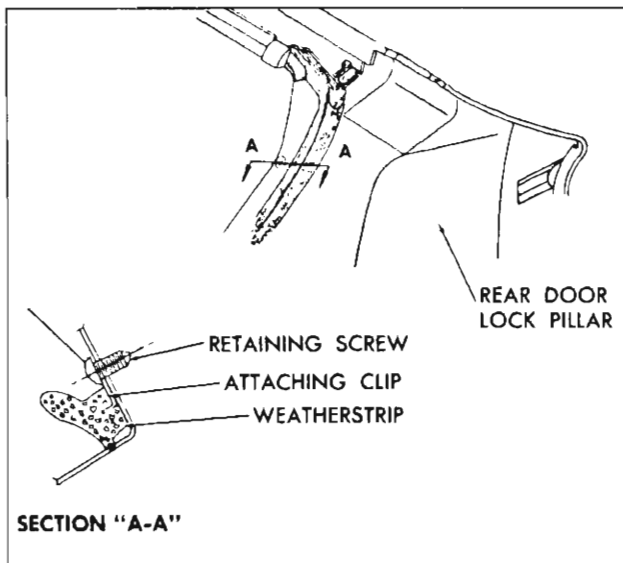

Fig. 35—Rear Door Weatherstrip Attaching Clip Screw
2. On "39" style rear doors, remove the single weatherstrip attaching clip screw located at upper radius of lock pillar (fig. 35).